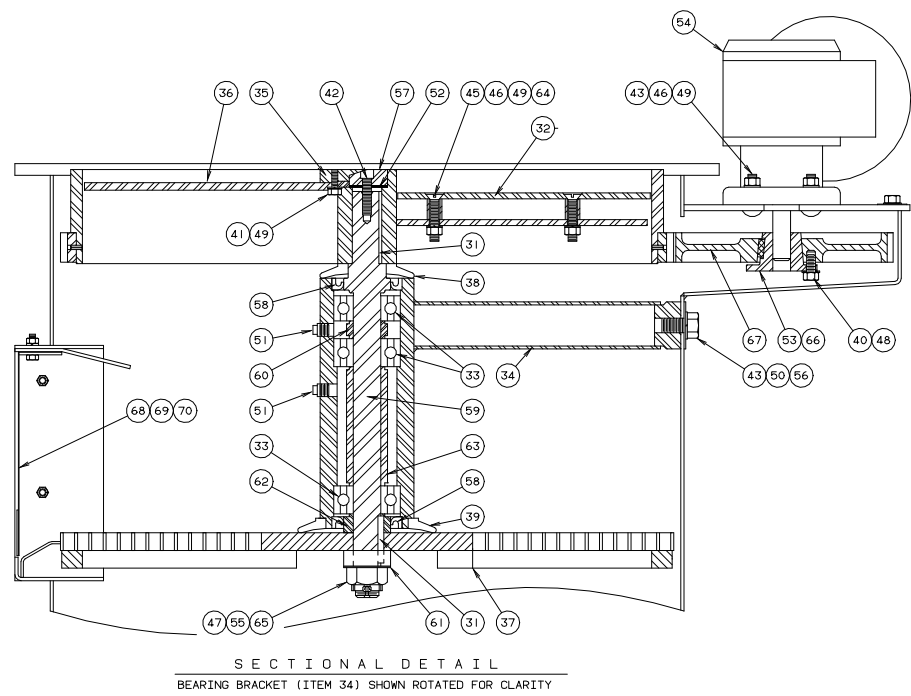

Figure 9-7A
Cutter Gear Reducer. The cutter motor and gear reducer (54), Figure 9-7A, drive the ring gear of the cutter assembly. It is important that the teeth of the drive gear and the ring gear mesh properly both vertically and horizontally. The drive gear and hub can be raised or lowered on the gear reducer shaft to obtain maximum vertical tooth engagement and the reducer assembly can be moved in or out horizontally to obtain the proper tooth depth for maximum gear life.